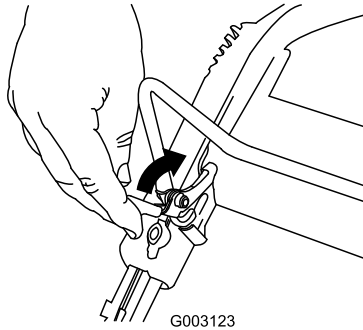

Figure 14
1. Pull the control-bar lock back (Figure 14).